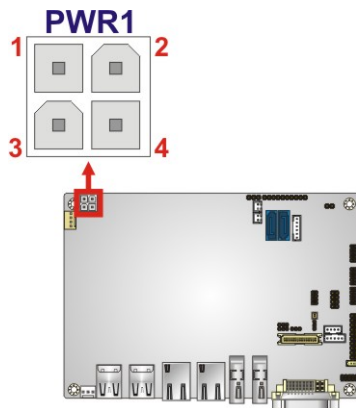

Figure 3-13: Power Connector Location
- CN Location:** See **Figure 3-13**